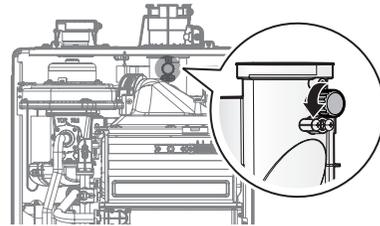

Figure 7. Insert the Analyzer
- a. Open the cover of the emissions monitoring port as shown in Figure 7.